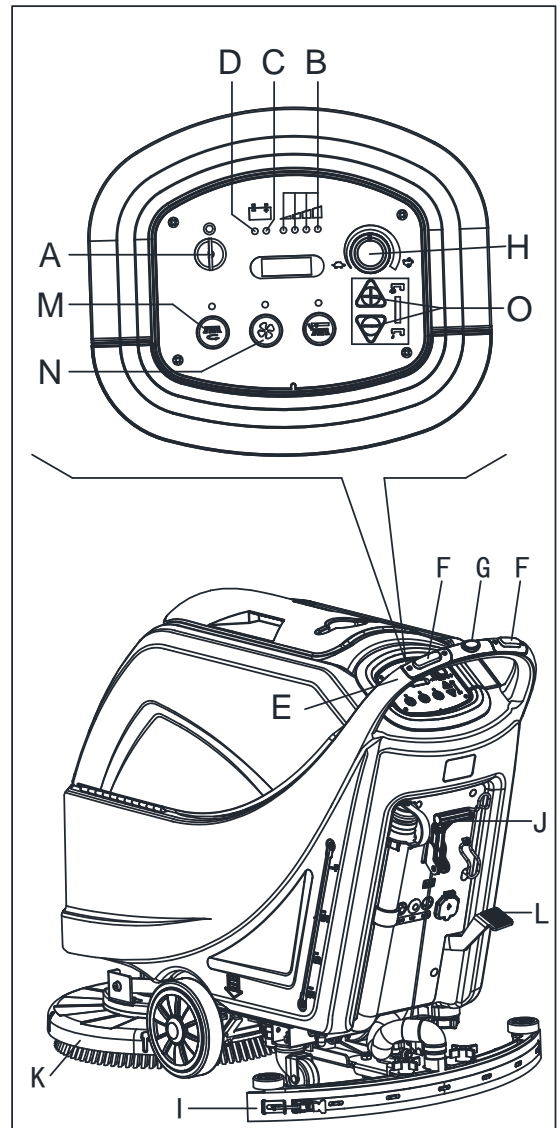

Figure 8
2. Insert the ignition key (A, Figure 8) and turn it to "I". Check that the green warning light (B) turns on (charged battery). If the yellow (C) or red warning light (D) turns on, turn the ignition key back to "0" and charge the batteries (see the procedure in Maintenance chapter).
- By pushing it with the hands on the handlebar (E) (only for machine without traction).
- By pushing it with the hands on the handlebar (E) and pressing the switch (F) to move forward, or pressing the switch (F) together with the switch (G) to move backward (only for machine with traction). The forward speed can be adjusted with the adjuster (H).
4. Lower the squeegee (I) with the lever (J).
5. Lower the brush/pad-holder deck (K) by lifting the pedal (L). (only for disc machine)
6. Press the brush/pad-holder switch (M) and the vacuum system switch (N).
7. Press the washing water flow control switches (O) as necessary, depending on the type of cleaning to be performed.
- (only for machine without traction) by pushing the machine with the hands on the handlebar (E) and pressing the switch (F).
- (only for machine with traction) by pushing the machine with the hands on the handlebar (E) and by pressing the switch (F). If necessary, the forward speed can be adjusted with the adjuster (H).
1. Lower the brush/pad-holder deck by press the Brush/pad-holder switch (M Figure 8).
2. While keeping both hands on the handlebar press the safety switch (F, Figure 8), then manoeuvre the machine and start scrubbing/drying the floor.